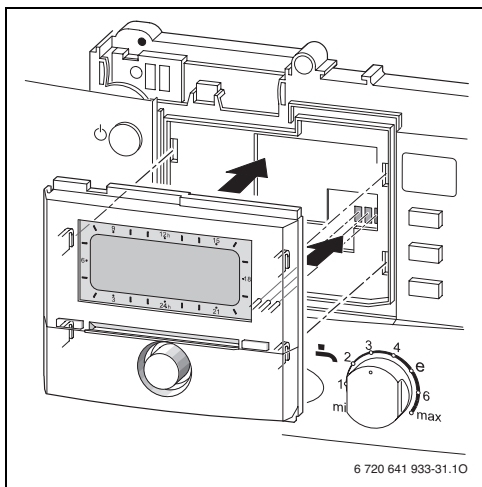

Fig. 6
- ▶ Installation of the controller automatically produces BUS connection via the three contacts (→ Fig. 6 on page 12).